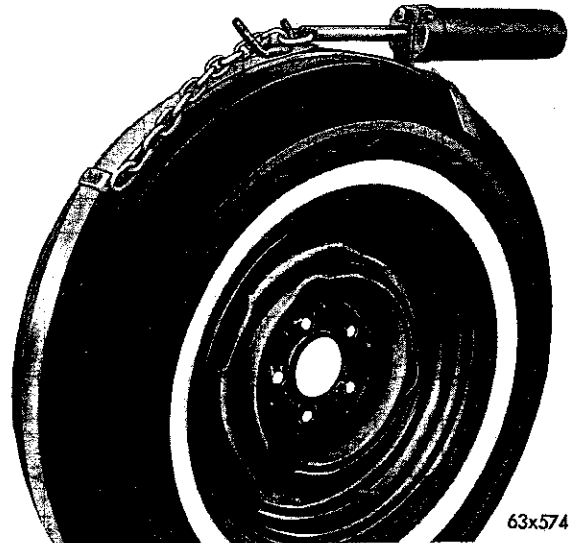
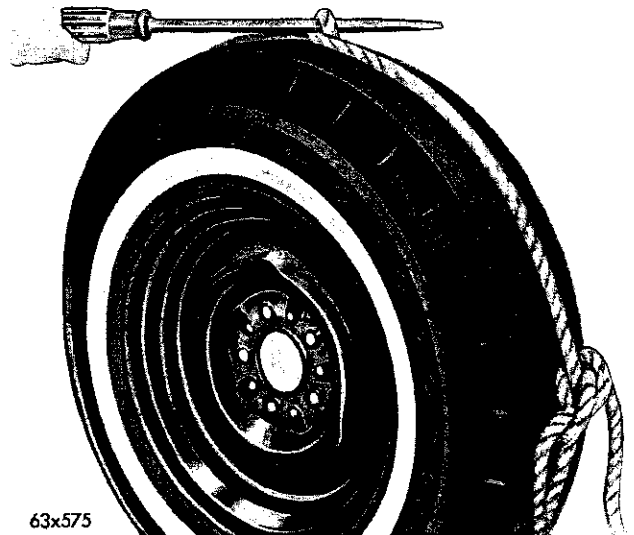

Fig. 6—Expanding Tire Beads (Mechanical Tool)
Fig. 7—Expanding Tire Beads (Rope Tourniquet)
(2) Place one bead over the rim of the wheel, working the entire bead into the low section of the rim.
(3) Place the other bead over the wheel rim and work the entire bead into the low section of the rim.
(4) While applying the air through the valve stem, strike the tread sharply with a rubber hammer to force both beads outward over the raised rim section. It may be necessary to use bead expander Tool C-3440 (Fig. 6) or a rope tourniquet (Fig. 7).
(5) When both tire beads are fully seated, adjust the air pressure to specifications.